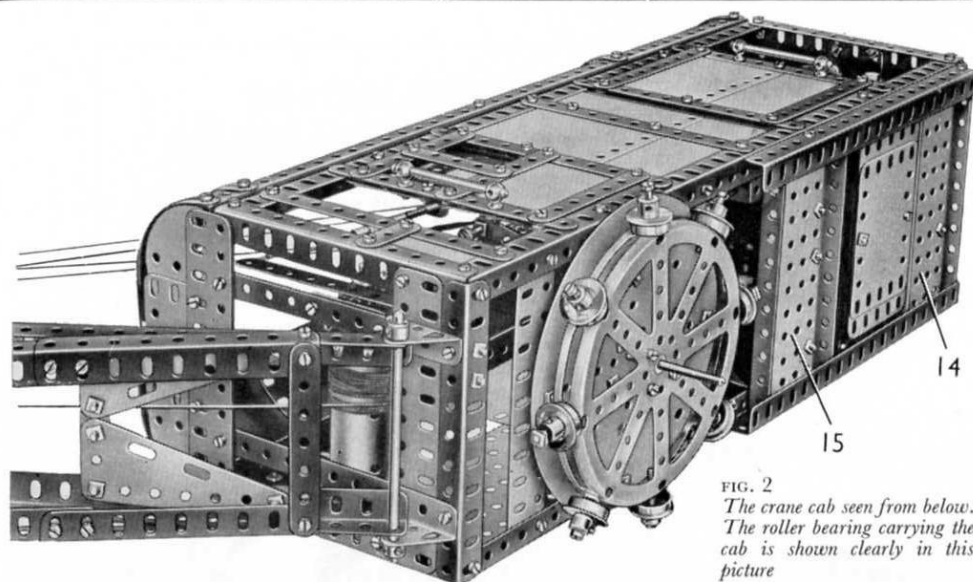
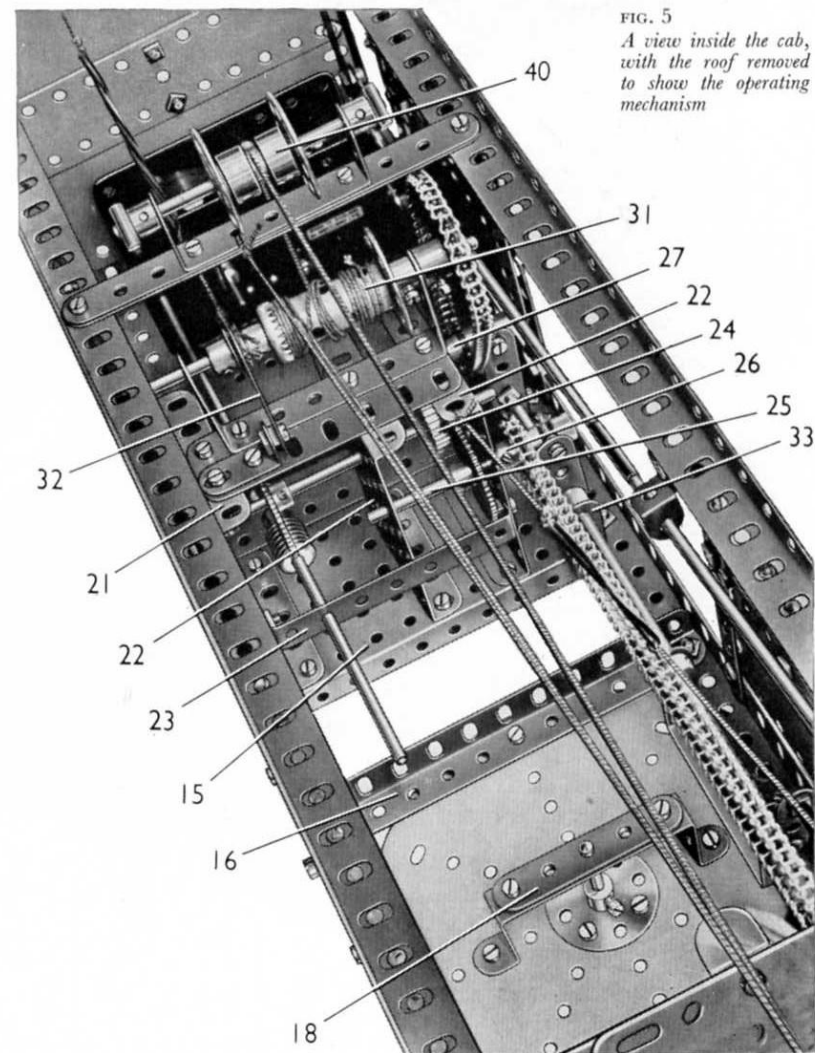
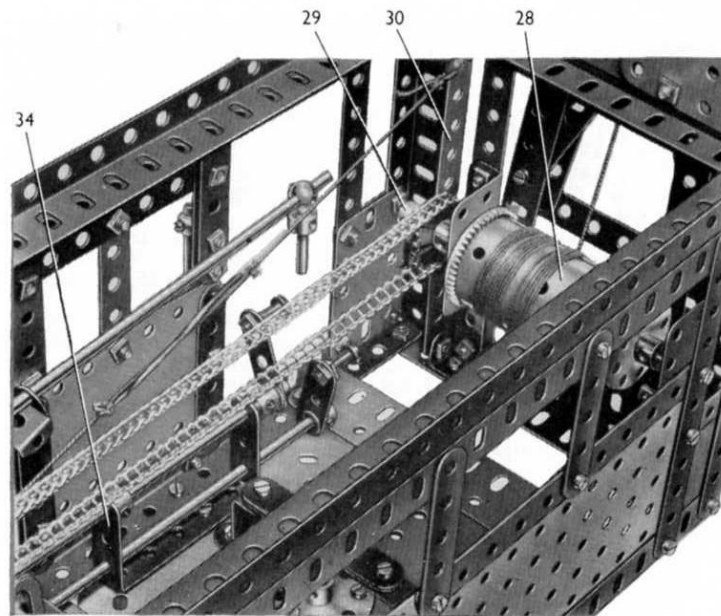
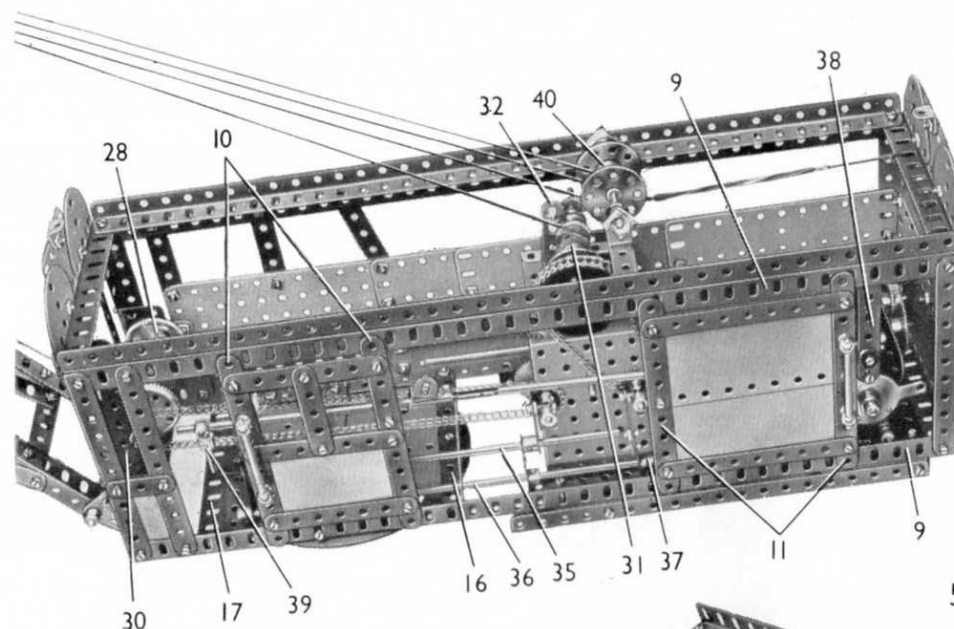

FIG. 2
FIG. 5 A view inside the cab, with the roof removed to show the operating mechanism
FIG. 6 The mechanism control levers and one of the winding drums are seen in this view
FIG. 8 The sliding doors, and the position of the E15R Electric Motor, can be seen in this view of the cab
The sliding door at the front end is made by bolting a $3\frac{1}{2}$ " \times $2\frac{1}{2}$ " Flexible Plate and three $3\frac{1}{2}$ " Strips between two $5\frac{1}{2}$ " Strips (10) (Fig. 8.) A $2\frac{1}{2}$ " Strip and a 3" Strip are attached to each Strip (10), but are spaced from it by a nut on each bolt. The ends of the Strips (10) are arranged in front of the Girders (9), and the 3" and $2\frac{1}{2}$ " Strips are placed behind the Girders to form guides for the door.
Two $5\frac{1}{2}$ " \times $2\frac{1}{2}$ " Flanged Plates (14) and (15) (Fig. 2) are fixed to the base of the cab and between them are a $5\frac{1}{2}$ " \times $2\frac{1}{2}$ " and a $5\frac{1}{2}$ " \times $1\frac{1}{2}$ " Flexible Plate. Two $9\frac{1}{2}$ " Angle Girders are attached to the flanges of the Flanged Plates. Seven $5\frac{1}{2}$ " \times $2\frac{1}{2}$ " Flexible Plates, fourteen $4\frac{1}{2}$ " \times $2\frac{1}{2}$ " Flexible Plates and three $3\frac{1}{2}$ " \times $2\frac{1}{2}$ " Flexible Plates are fixed to the floor between the Flanged Plates and act as a balance weight at the rear of the cab.
A 6" Circular Plate is bolted to the lower one of the Girders (9) and to the corresponding Girder of the other side, but it is spaced from them by a nut on each bolt. The Circular Plate is supported also by a $5\frac{1}{2}$ " Angle Girder (16) and a $5\frac{1}{2}$ " Flat Girder (17) strengthened by a $5\frac{1}{2}$ " Strip. It is spaced from these parts by two nuts on each of the $\frac{3}{8}$ " Bolts that joins them together. A Bush Wheel (eight holes) is bolted to the centre of the Circular Plate, and two 1" Reversed Angle Brackets fixed to the Plate support four $2\frac{1}{2}$ " Strips (18) (Fig. 5).
The housing for the gear-box is made by bolting three $3\frac{1}{2}$ " \times $2\frac{1}{2}$ " Flanged Plates, one of them numbered (21) and the other two indicated at (22), to the Flanged Plate (15) (Fig. 5). The top flanges of the Flanged Plates are connected by a $3\frac{1}{2}$ " Flat Girder, to which is bolted a $3"$ \times $1\frac{1}{2}"$ Double Angle Strip. Two $3\frac{1}{2}"$ \times $\frac{1}{2}"$ Double Angle Strips are bolted to the Flanged Plate (21) and to one of the Flanged Plates (22). One of these Double Angle Strips is indicated at (23) and the other is attached in corresponding holes at the rear edges of the Flanged Plates (21) and (22).
An E15R Electric Motor is bolted to the Flanged Plate (14) (Fig. 2). A 50-tooth Gear on the armature shaft engages a $\frac{3}{4}"$ Pinion on an $11\frac{1}{2}"$ Rod. This Rod is mounted in the Motor side-plates and in the Double Angle Strips (23), and it carries a Worm that drives a 57-tooth Gear on a 4" Rod supported in the Flanged Plates (21) and (22). A $\frac{3}{4}"$ Pinion (24) is fixed on this Rod. Two 3" Rods (one of them is seen at (25) Fig. 5), are mounted in the Flanged Plates, and each of them is fitted with a 50-tooth Gear that can be engaged with the Pinion (24) by sliding the Rod. Rod (25) is fitted with a $\frac{3}{4}"$ Sprocket (26), and the other 3" Rod carries a $\frac{3}{4}"$ Sprocket 27.
Sprocket (26) is connected by Chain to a 1" Sprocket on a $4\frac{1}{2}$ " Rod. This Rod is mounted in Girder Brackets bolted to the front of the cab, and it carries a winding drum (28) made from a Cylinder clamped between two $1\frac{1}{2}$ " Contrates. A $\frac{1}{2}$ " Pulley (29) is fixed on one end of the Rod and a $5\frac{1}{2}$ " Strip (30) engages in its groove (Fig. 6). The Strip is *lock-nutted* to a $1" \times \frac{1}{2}"$ Angle Bracket bolted to the base of the cab as shown. A length of Cord is tied to the top end of this Strip and to a Driving Band, which is stretched slightly and is connected by a length of Cord to one of the Flanged Plates (22). This arrangement provides a constant braking action on the winding drum.
A $3" \times 1\frac{1}{2}"$ Double Angle Strip (33) is bolted to the Flanged Plate (15) (Fig. 5), and a $2\frac{1}{2}" \times 1\frac{1}{2}"$ Double Angle Strip (34) (Fig. 6), is spaced from the 6" Circular Plate by a nut on the bolt that holds it in place. These Double Angle Strips support an 8" Rod (35) and an $11\frac{1}{2}"$ Rod (36). Each of these Rods carries at its front end a Crank fitted with a Pivot Bolt that forms a control handle. A Crank (Fig. 8) is fixed on Rod (35), and a $\frac{3}{8}"$ Bolt fixed in the Crank engages between two Collars on the end of rod (25). A Crank (37), extended upward by a 2" Strip fitted with a $\frac{3}{8}"$ Bolt, is fixed on the Rod (36). The $\frac{3}{8}"$ Bolt engages between two Collars on the Rod that carries the Sprocket (27).
A $3\frac{1}{2}"$ Strip (38) (Fig. 8) is *lock-nutted* at its upper end to an Angle Bracket bolted to the upper one of the Girders (9). The lower end of Strip (38) is *lock-nutted* to an arm of the E15R Electric Motor switch. A Rod and Strip Connector is *lock-nutted* to the Strip (38), and is fitted with an 8" Rod joined to a $6\frac{1}{2}"$ Rod by a Rod Connector. The $6\frac{1}{2}"$ Rod is supported by a Corner Angle Bracket bolted to the side of the cab, and it carries a handle (39) formed by a 1" Rod held in a Handrail Coupling.
Arrangement of the Jib Luffing and Load Hoisting Cords (Figs. 8 and 10)